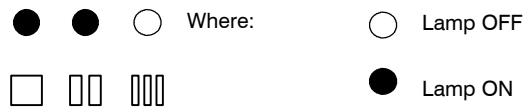

Fig. 9.14
- Press the reset button C repeatedly (2 times) until the lamps E give the indication as in Fig. 9.14 (boiler mode).